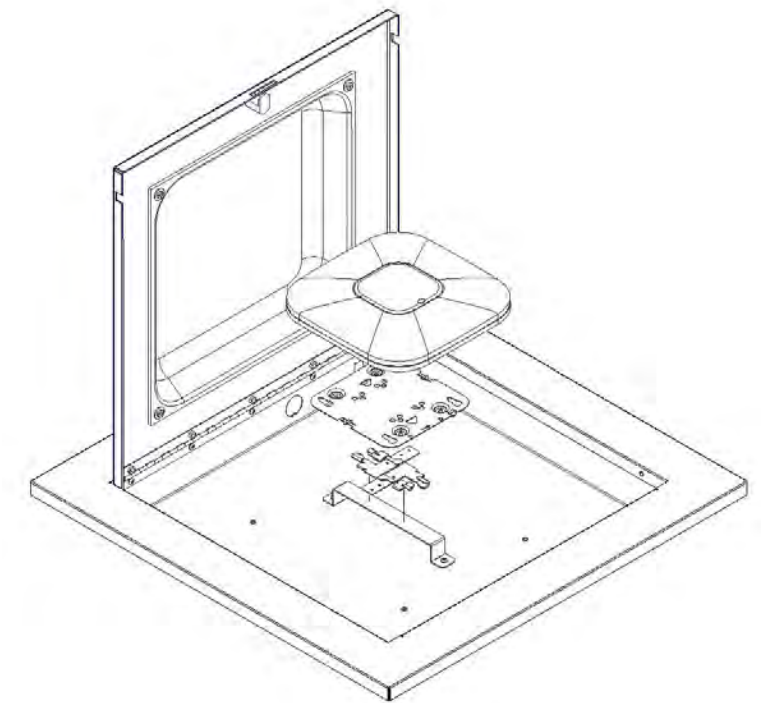

Figure 3 – Install Access Point in enclosure.
Step 3 – (Any manufacturer's access points) Install the access point's mounting plate to the enclosure's "T-Bar" bracket using the manufacturer's instructions for attaching the mounting bracket to a ceiling tile grid (T-Bar). Attach the *Access Point* to the mounting plate. (Ref. *Figure 3*).